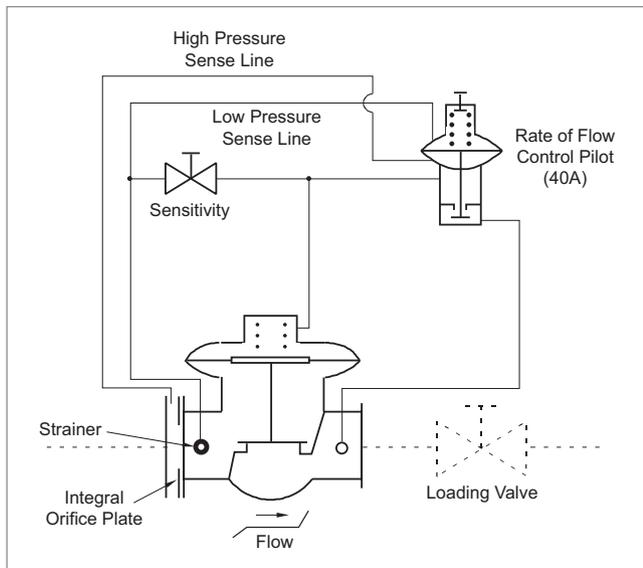

Figure 1 – Model 200-40A
With product flowing, the Flow Limiting Valve is held open by the differential pressure across the main valve (200) diaphragm (Figure 1). The pressure beneath the main valve diaphragm (inlet pressure) is greater than the pressure in the main valve cover chamber which is vented through the normally-open 40A Rate of Flow Control Pilot (installed in the downstream pilot loop). The 40A pilot is held open by the spring in its cover chamber. As product flows through the valve, a pressure differential is created across the valve orifice plate. The higher pressure sensed on the upstream side of the orifice plate is transferred through a sense line to